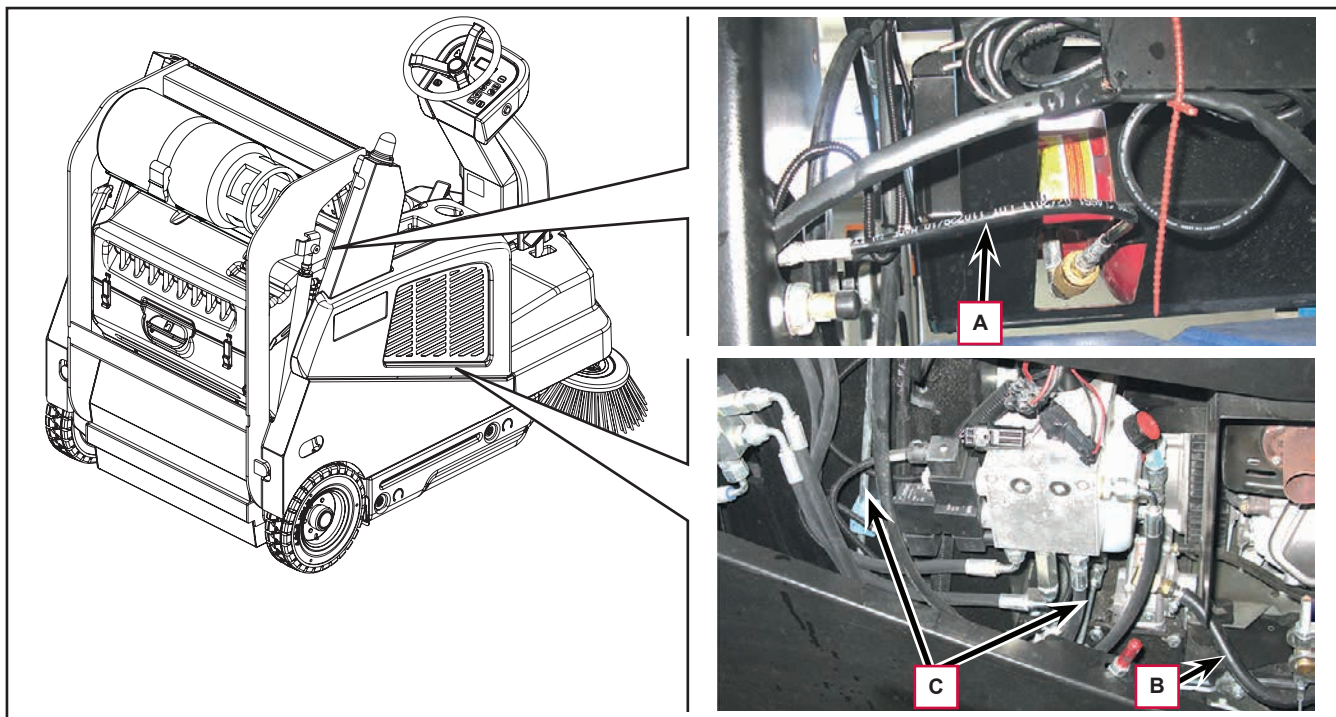

Figure 16
- Before re-tightening the fittings (D, Figure 16) clean them thoroughly and replace the inner gaskets.
- Before screwing down the fittings (E) carefully remove any remaining of sealant, then apply the new sealant; use PTFE by WURTH saBesto, P/N 0893 511 050 – S/I (or equivalent). Proceed according to the instructions on the package of the product.
- Before connecting the fittings (F) clean them accurately and replace the fastening bands.
- After assembling the fittings (E) wait the time necessary for the sealant to harden, before the LPG gas enters the system.